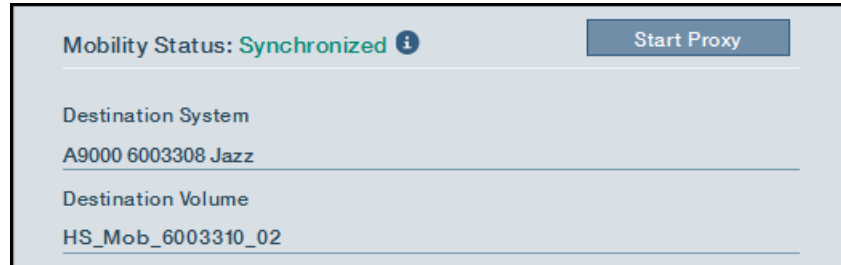

Figure 3-18 Start IBM Hyper-Scale Mobility Proxy
1. In the Hub view to the right of the Volumes tab, select **Start Proxy**, as shown in Figure 3-18.